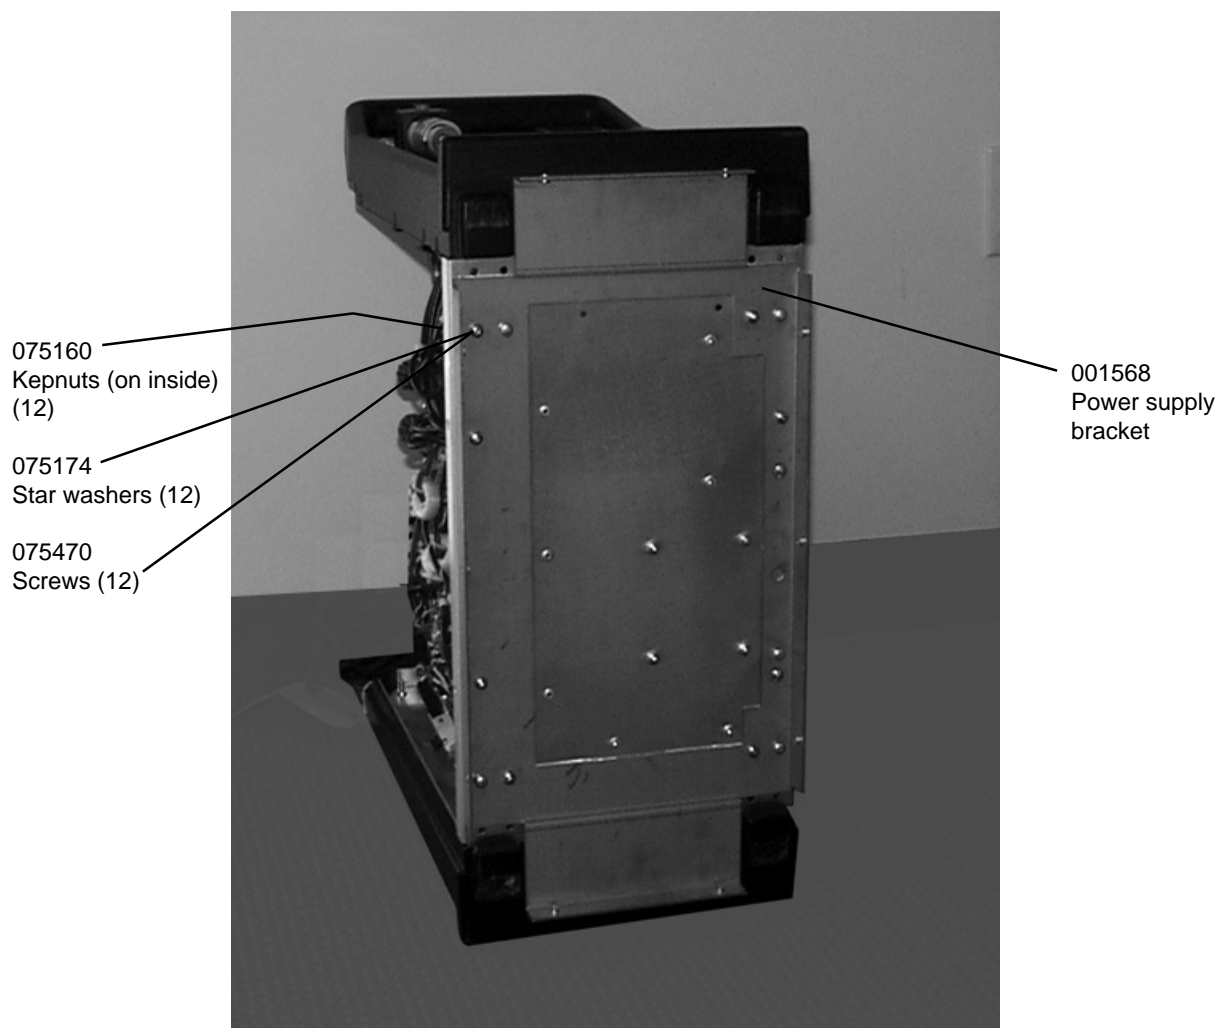

Figure 2-7 Attaching 230V Power Supply Bracket to Powermax CE Chassis
5. Carefully tilt the Powermax over onto its front handle as shown in Figure 2-7.
6. Place the 001568 power supply bracket against the bottom of the power supply as shown in Figure 2-7 and fasten with the 075470 10-32 screws, 075174 star washers and 075160 kepnuts in 12 locations.